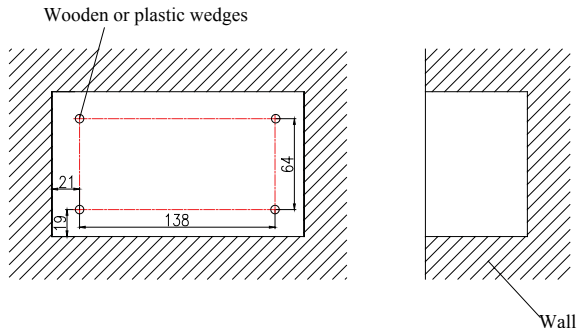

Fig. 18
2) Make 4 pieces of wooden or plastic wedges and then secure them , as shown in Figure 18 .